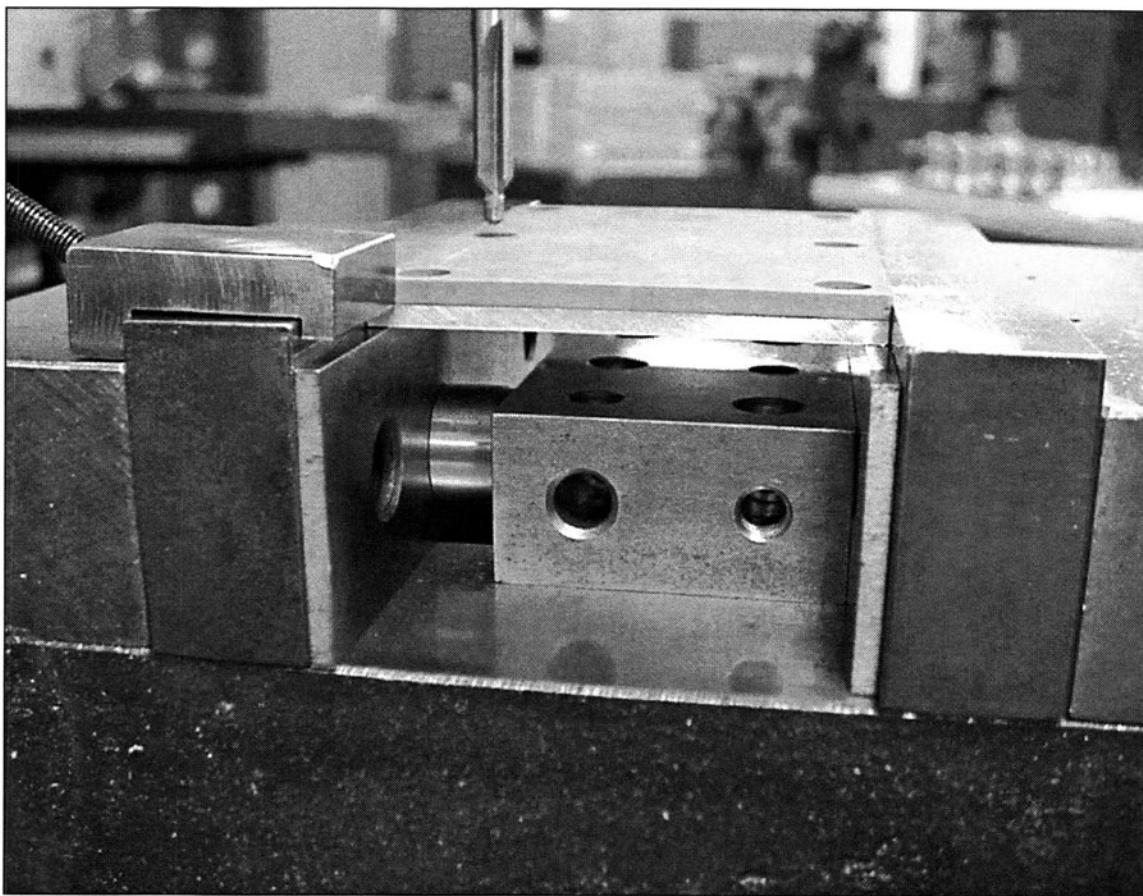

FIGURE 1-5 A slide fixture allows parts to be changed without loosening and tightening the vise.
9. *Use a slide fixture in a conventional mill for drilling holes. (See Fig. 1-5)*